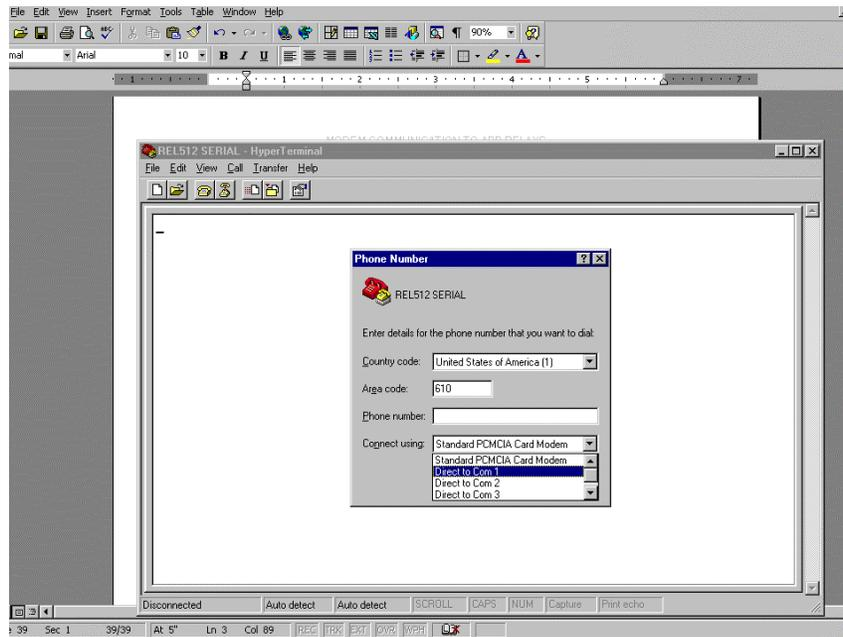

Figure 45. COM Port Configuration for Attachment of Hyperterminal Session
4. The COM properties for the modem must be selected for this example to those selected for the REL512. In this case the same settings configured for the REL512 in STEP 3 are selected for the interface. Notice that the settings are selected in Figure 45 for those configured in STEP 3. Notice for this example, hardware handshaking is enabled for RTS/CTS configuration.